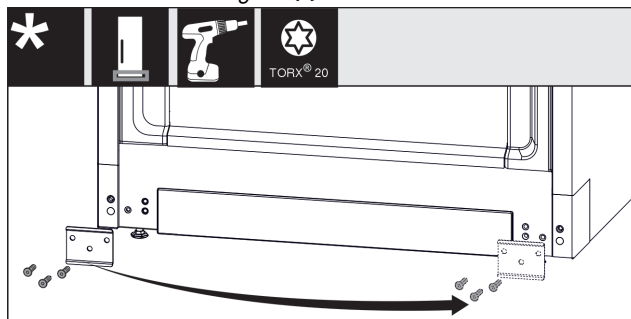

Fig. 13
- Unscrew the metal plate, move it to the other side and screw it on again. *Fig. 13 (1)*